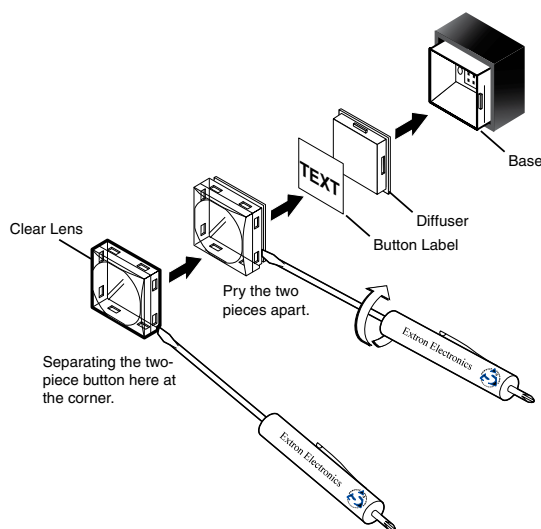

Figure 5-34 — Remove the button cap to replace the label
1. Insert the flat-head end of an Extron tweaker or small screwdriver alongside the button and gently lever off the (two-piece) button cap (see figure 5-34) from the base.
2. Separate the cap into the lens and diffuser insert the flat-head end of an Extron tweaker or small screwdriver into the corner hole in the cap and turn until the two pieces come apart (see figure 5-34).